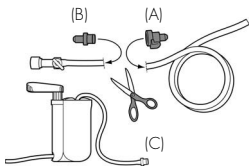
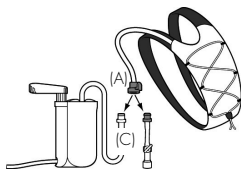

Figure 4-1
Figure 4-2
1. Cut hydration pack drink hose at desired length (approximately 4 inches from end of drink hose). See Figure 4-1
2. Connect white body (A) to long section of drink hose that attaches to hydration bladder.
3. Connect white insert (B) to short section of drink hose that attaches to bite valve.
4. Connect the second white insert (C) to end of water filter output hose.
5. To fill bladder, connect white insert (C) on output hose to white body (A) on drink hose. Fill. Reconnect bite valve. See Figure 4-2